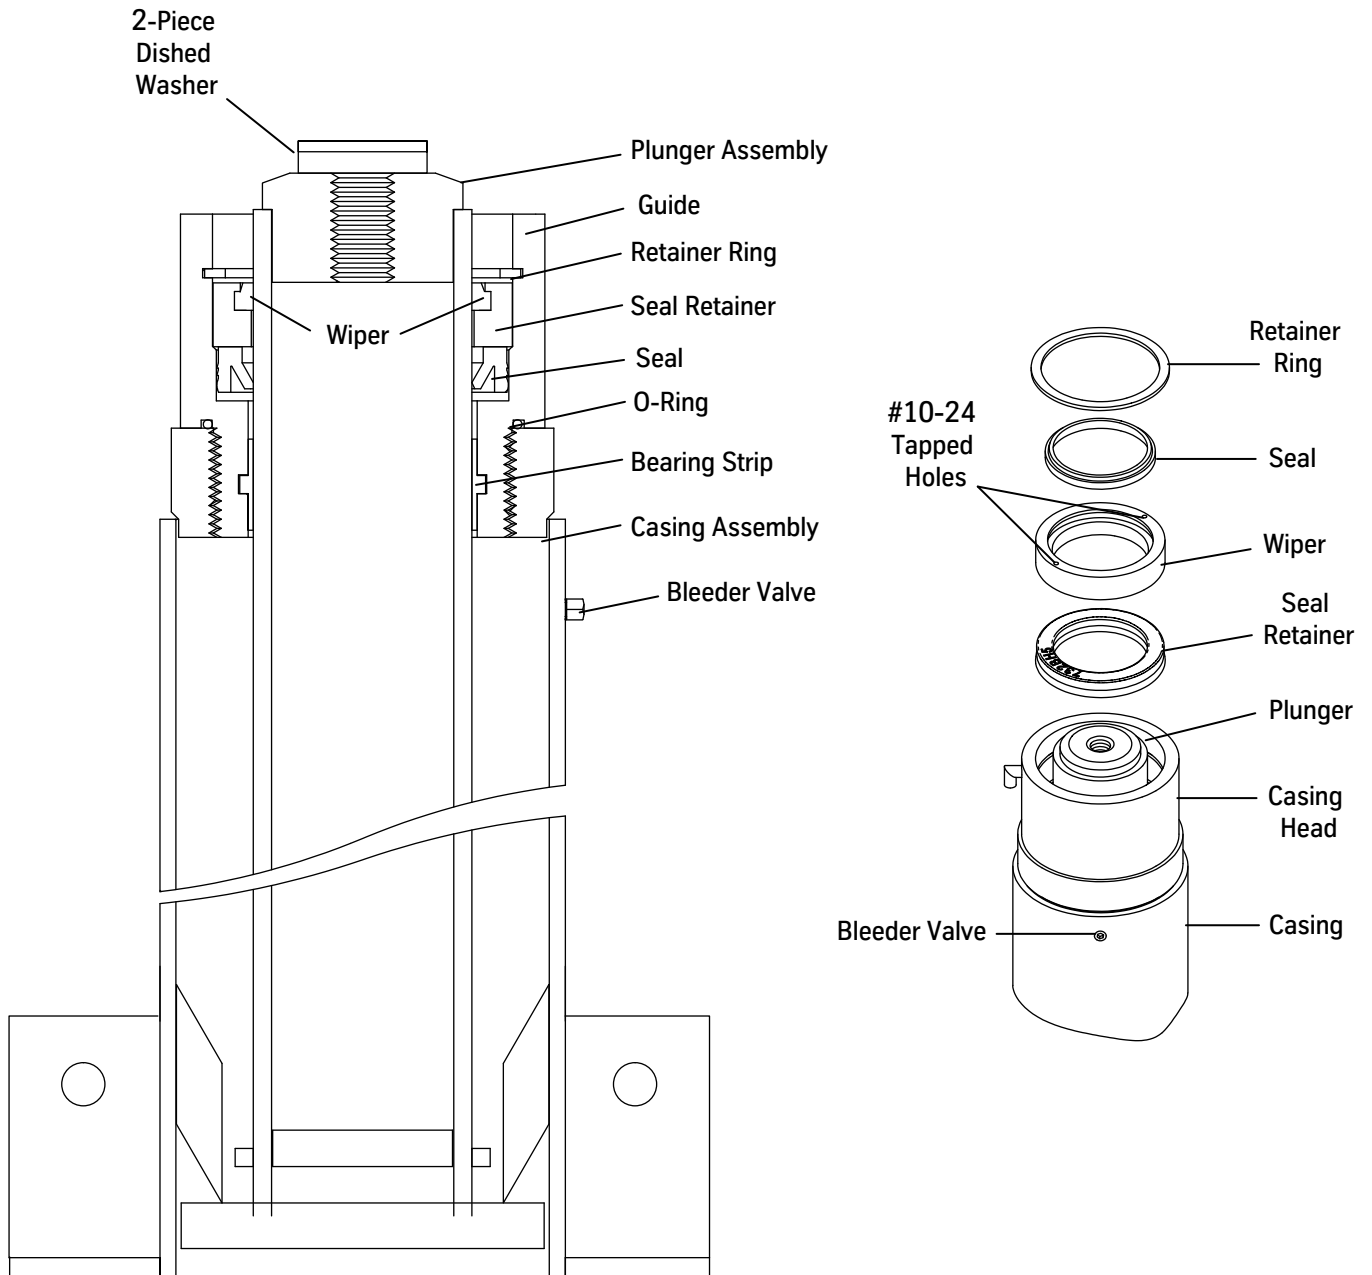

Figure 21 - Remove and Replace Jack Seals
6. Remove the lift bracket/platen assembly from the stile. Retain the two beveled washers between the jack and lift bracket/platen assembly. See Figure 21 on page 37.